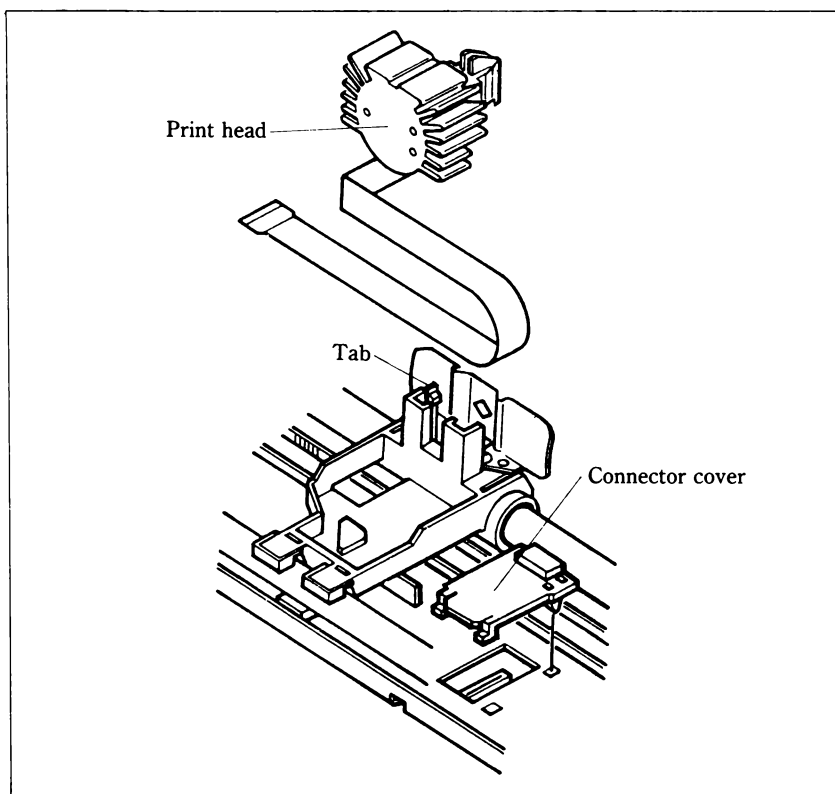

Figure 3-4. Replacement of the print head is simple.
2. Remove the print head left along the carriage, until you can see the connector cover. Remove the cover from the printer frame; for details, see Figure 3-4. Unplug the print head cable from the head cable board.